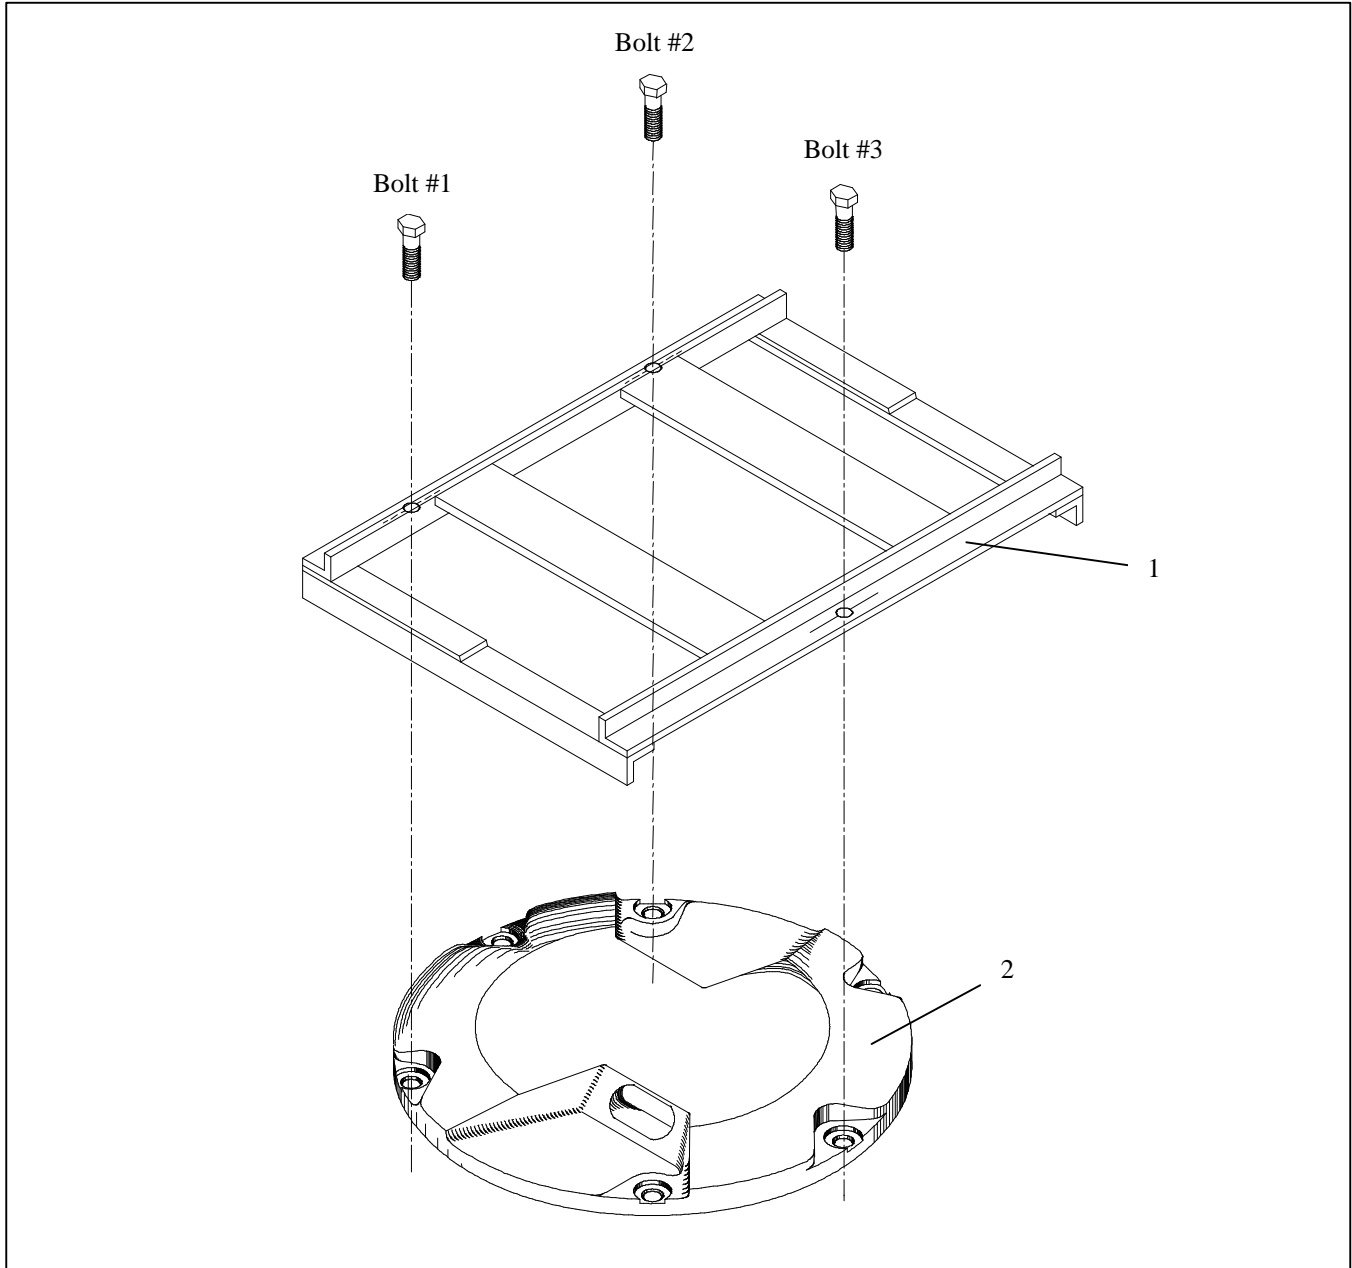

Figure 4. Alignment Jig
5. See Figure 4. Use an alignment jig to align the light assembly. The jig has three positioning screws that fit into the tapped holes holding the light fixture to the shallow base.